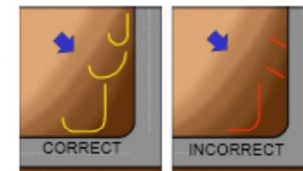

Figure 3: Ribbon attachment to post
7. Fasten the filter fabric securely and taut to the upslope side of the posts using top ribbon (see figure 3), wire/cable ties threaded through the silt fence, or 30mm long extra wide head galvanised stout nails (The fabric shall not be stapled to existing trees). Where required, tighten top edge of fabric by looping top ribbon over posts, and strain/brace posts to maintain fence tension and stability (See figure 1).